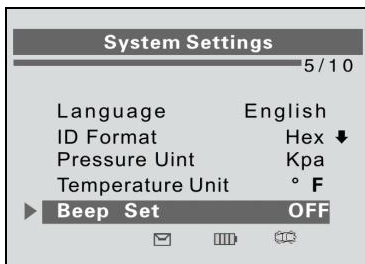

Figure 2.10
- 1) From **System Settings** screen, use the **UP/DOWN SCROLL** button to select **Beep Set**, and press the **Y** button. (Figure 2.10)